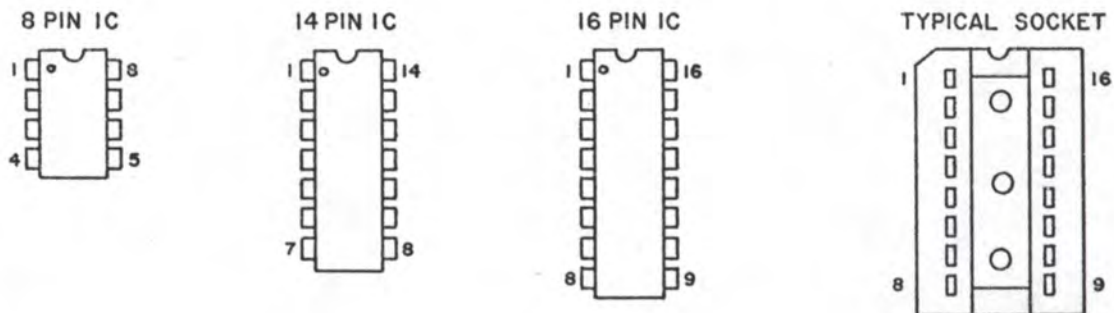

FIGURE 18
10. When installing an IC, note how Pin 1 is positioned in relation to the socket. Referring to Figure 18, this pin is usually identified by an indentation on the IC or by a dot or other mark. Pin 1 is usually marked on a socket by a small diagonal cut and/or a notch.